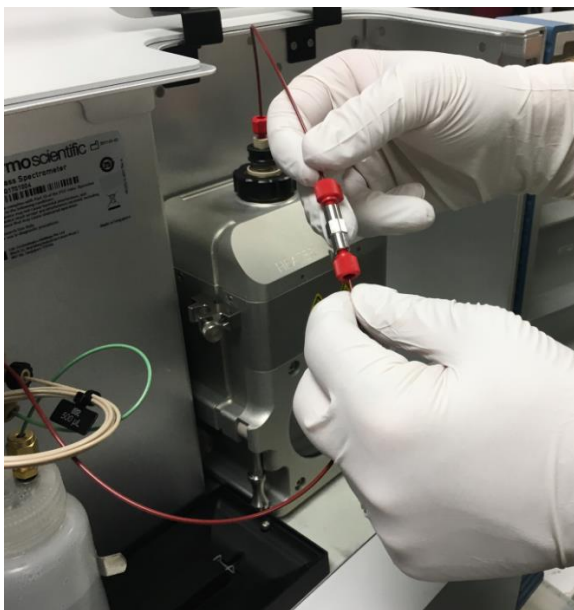
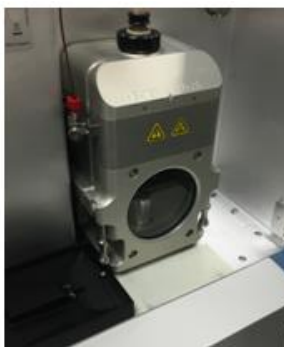

Figure 44: Disconnect PEEK capillary connection of source at grounding union
Figure 45: Removal of source housing
- 3) Remove PEEK capillary fitting connection at grounding union as shown in Figure 44.
- 8) Remove PEEK capillaries and source housing as shown in *Figure 44* and *Figure 45*.